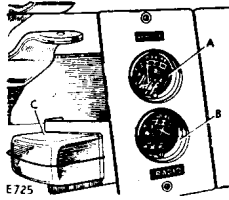

Fig. 119. Ammeters and radio fuse, 40 amp models
- (1) Remove the fuse (Fig. 119 (C)) located on the left side of the instrument panel assembly and stow in some convenient bin.